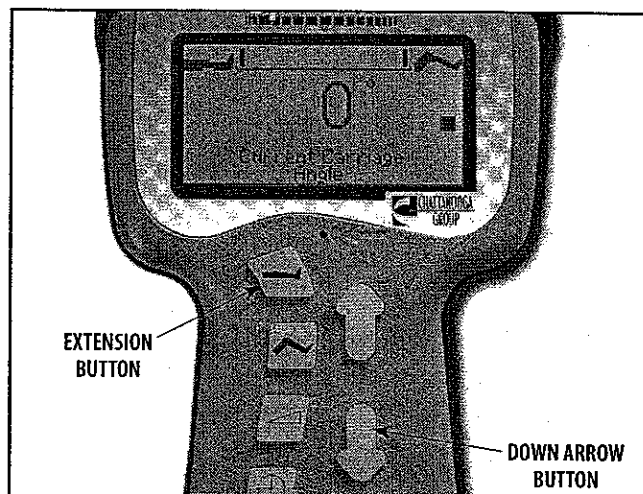

FIGURE 5.3
4. Press and hold the Extension button. While holding the Extension button down, press the Down Arrow button until 0 is displayed on the Pendant. See Figure 5.3.